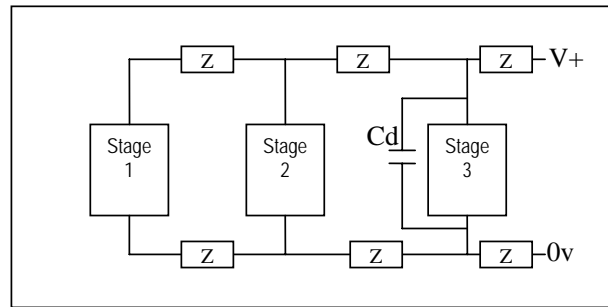

Figure 2 - supply and ground noise issues
There are two separate issues - noise on the ground supply between different stages (which therefore will appear as extra noise on any signal passing from one stage to another) - and noise on power supplies. Both however are caused by ac circuit current. For example switching a digital output will charge or discharge the wiring and input load capacitance resulting in a current spike on either the logic supply (if charging) or the logic ground (if discharging). There are also large current spikes internal to logic ICs on clock edges. These current supplies can induce both ground noise and supply noise. Figure 2 shows the problem where the impedance of supply and ground lines (Z) will result in ac voltages at the 0v or V_+ points in the individual circuit stages if ac currents flow through the supply lines.
The solution to supply noise is simple: use RC supply decoupling to a local ground with one (or if necessary two, say 10uF tantalum and 0.1uF ceramic) capacitors, positioned as C_d in Figure 2. This provides a return path for ac supply currents in stage 3 and means that these do not cause supply and ground noise.